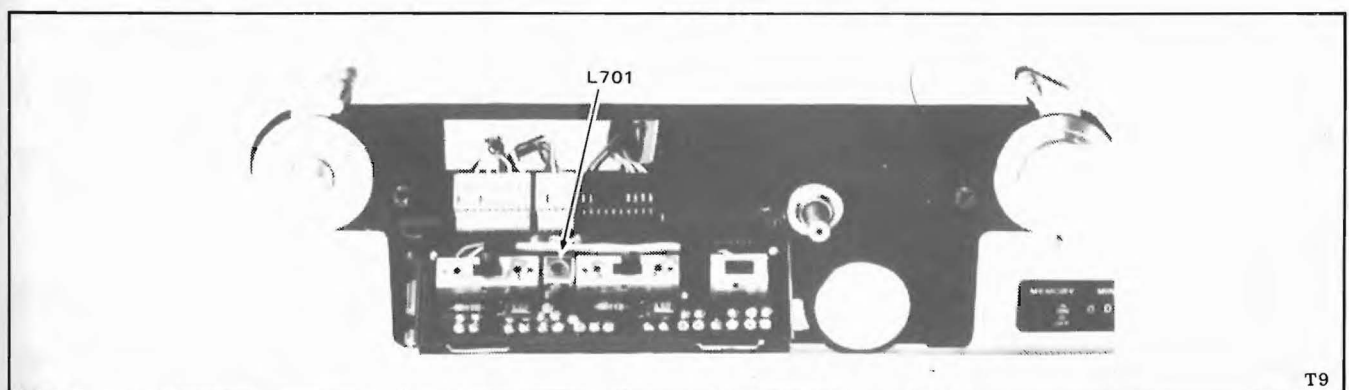

Figure 5-21. L701 Dummy Coil
- b. Adjust L701 dummy coil on the head assembly (see Figure 5-21) to get specified response. Note that there will be an output on channel 1 only.